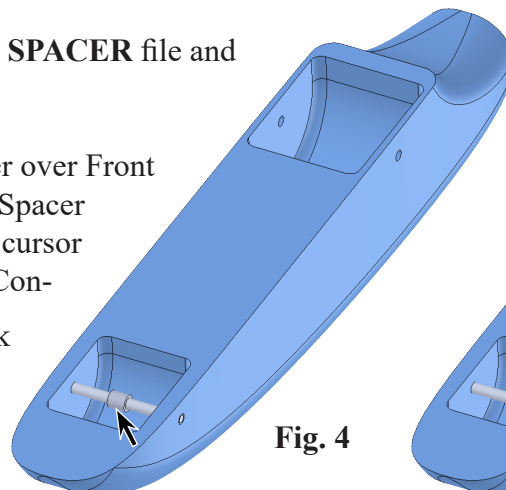

Fig. 4
Step 10. Position Front Spacer over Front Axle, **Fig. 4**. When Spacer snaps into place and cursor changes to indicate Concentric mate , click to release Spacer.